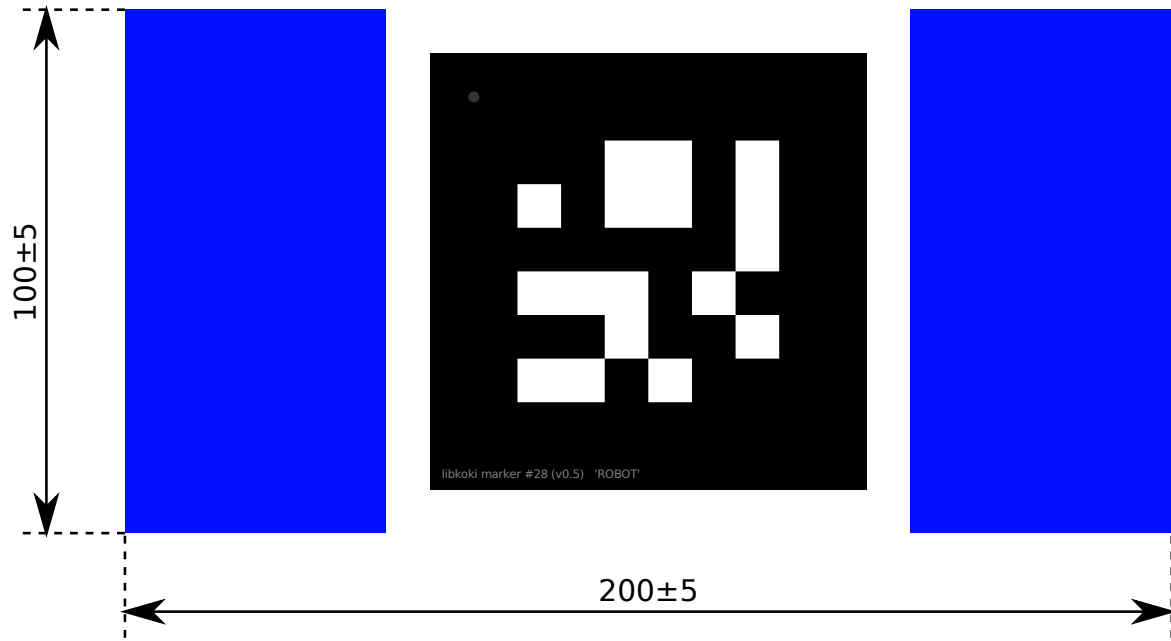

Figure 1: An example robot badge. The blue areas shown are the human-compatible areas. All dimensions are in millimetres.
3.2.1 A “robot badge” is a removable identifier that will be attached to a robot throughout a match. It features the robot’s assigned marker for the match, as well as human-compatible areas to allow spectators to easily associate a robot with its starting location. An example of one of these badges is shown in figure 1. The markings in the human-compatible areas are intentionally not specified.
3.2.3 The four badge mounts must be on the exterior of the robot, parallel with the vertical plane, and should be perpendicular to each other about the vertical axis² The orientation of the badge mounts is unimportant, but teams are encouraged to position them horizontally as shown in figure 1.